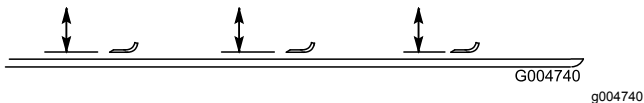

Figure 125
2. Rotate the blade until the ends face forward and backward and measure from the inside of the mower deck to the cutting edge at the front of the blade (Figure 125).